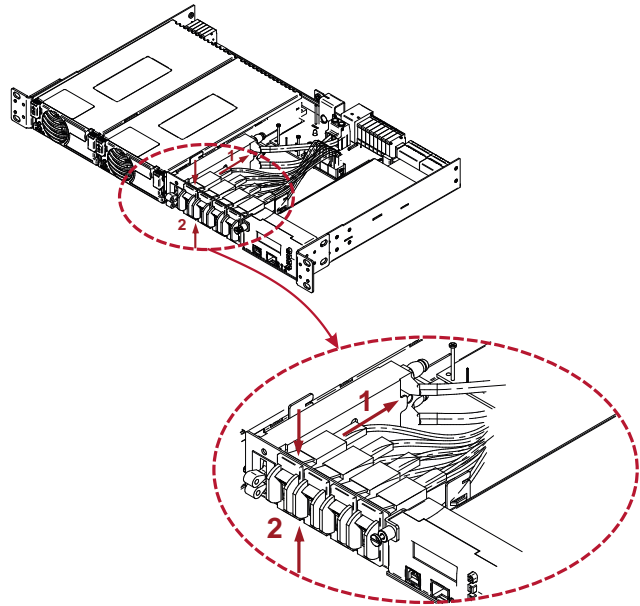

Figure 7-5 Breaker Removal - A
2. Pull the Faston connector from the circuit breaker, see detail in Figure 7-5 (1).
3. Press the top and bottom of the breaker, Figure 7-5 (2) to disengage it from its place and pull it out, Figure 7-7.